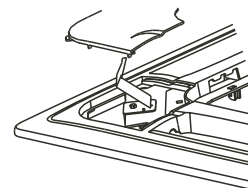

fig.4-14
- Wrench off the bolts, loose the rope of the installation covers, and remove them. (Refer to Fig.4-14)
- 5) Regulate the panel in the direction of the arrow in fig.4-14 d slightly to fit the panel's center to the center of the ceiling's opening. Guarantee that hooks of four corners are fixed well.